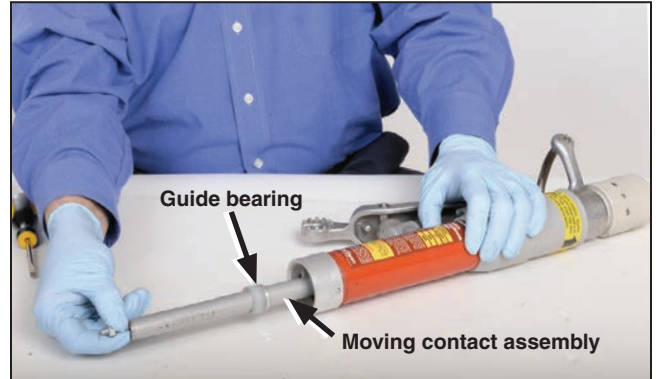

Figure 6. Remove the moving contact assembly and slide off the guide bearing.
STEP 4. Withdraw the moving contact assembly, and then slide off the guide bearing. See Figure 6.